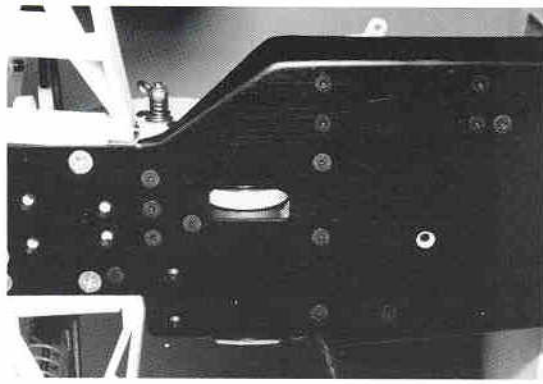

Fig. 300
Step 17 If you are going to be using a starter motor, fig. 300 shows where the cutout in the bottom of the chassis is located around the flywheel. Go ahead and get the starter set up and ready to go. To use it, you will need to bump the starter motor rubber donut against the flywheel, through this opening, and then hold it there after the motor starts to turn over. **WARNING!** the flywheel on the engine must rotate counter clockwise (when looked at from the clutch end) in order to work correctly. Check the direction of rotation of the starter motor rubber donut when placed under the chassis. If it was brought in from the clutch side it should rotate clockwise. If the rotation is backwards you will need to bring the starter motor in from the other side of the chassis or reverse the starter motor connections to the battery.